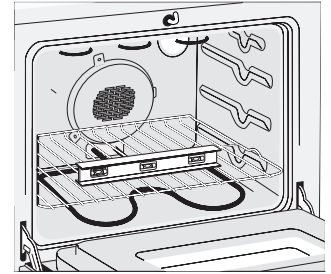

Figure 11
- Level the range. The floor where the range is to be installed must be level** (see Figure 11).